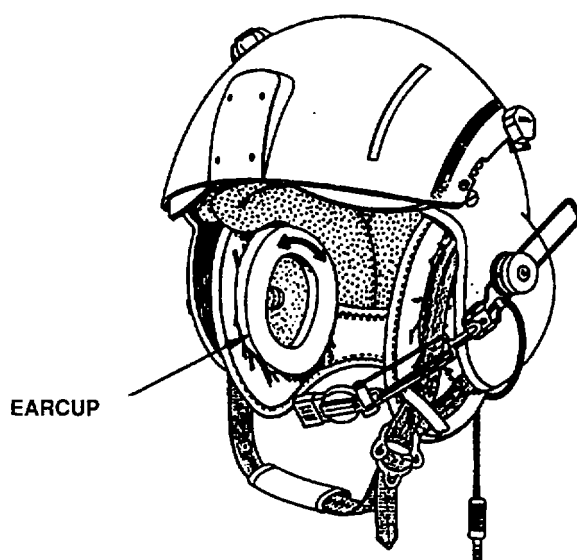

Figure 2-2. Earcup Within Retention Assembly
c. Earcups (Figure 2-2). If necessary, the earcups can be rotated within the retention assembly for optimum fit and noise reduction.